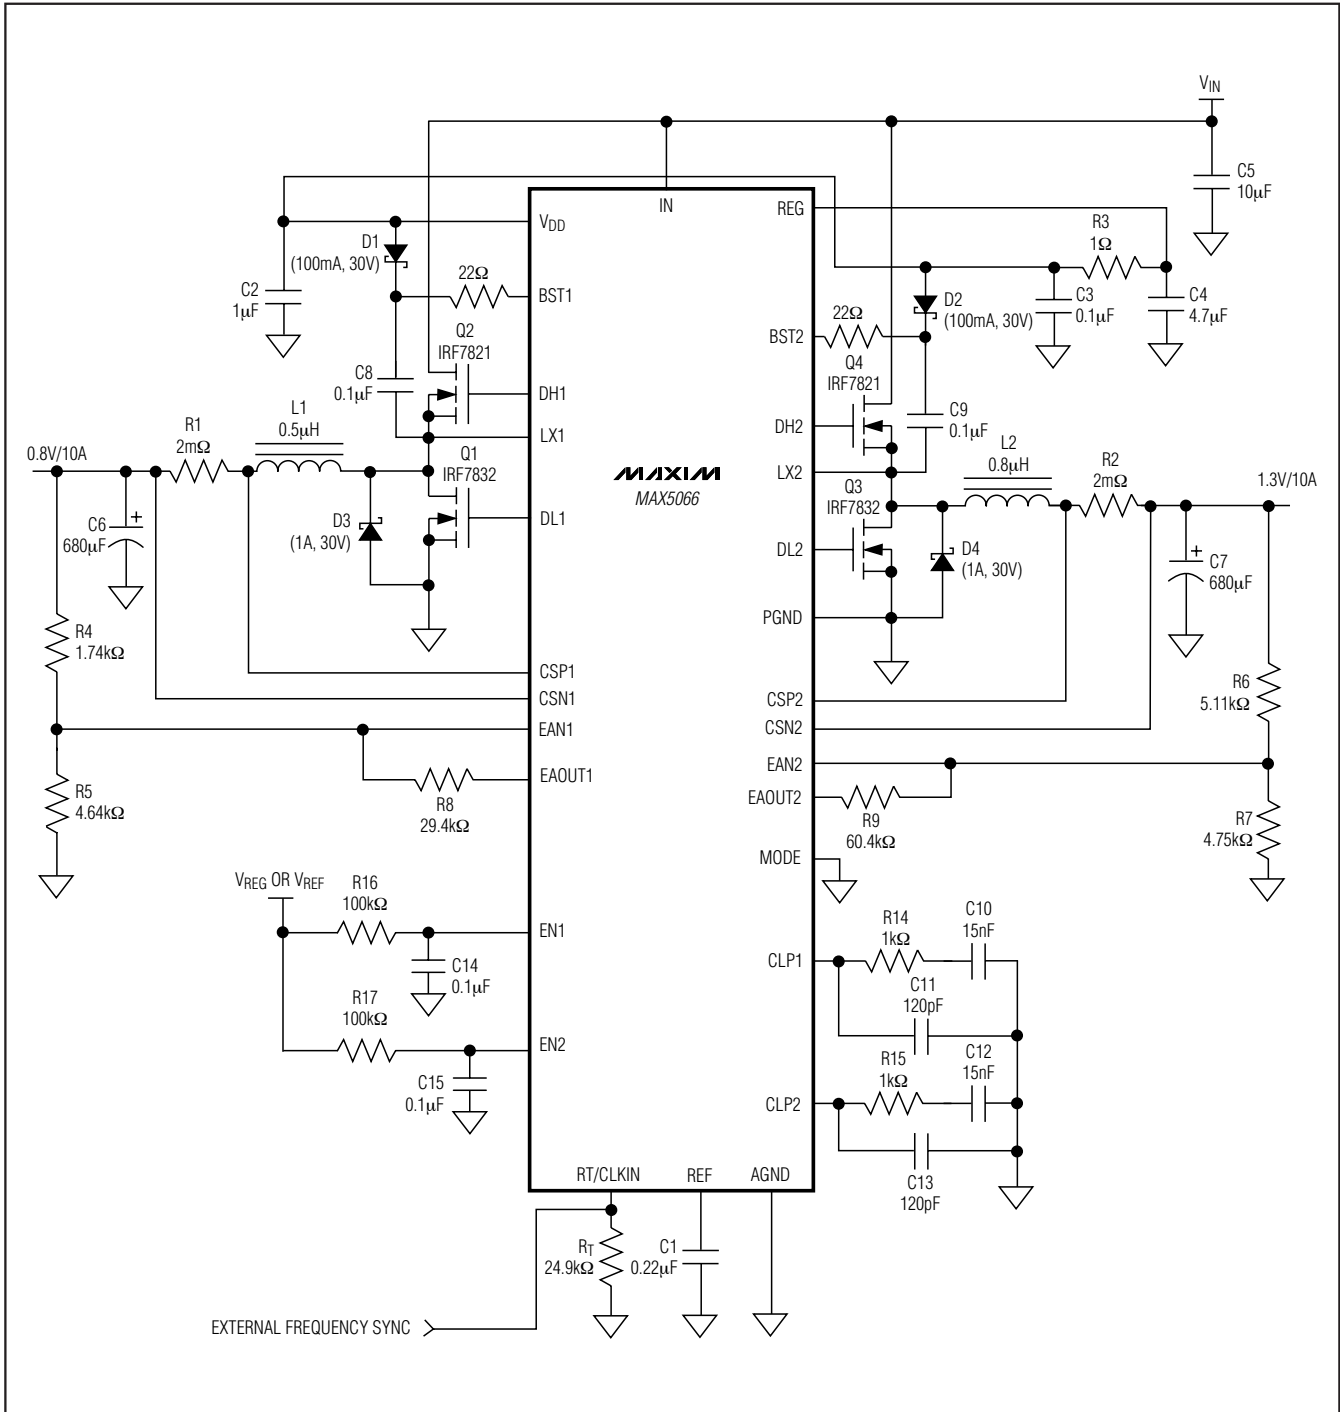

Figure 6. Dual-Output Buck Regulator
where IIN is the quiescent supply current into IN (4mA, typ), QGQ1, QGQ2, QGQ3, QGQ4 are the total gate charges of MOSFETs Q1 through Q4 at VGS = 5V (see Figure 6), and fSW is the switching frequency of each individual phase.
diodes D1 and D2 (see Figure 6). Connect a 0.1μF ceramic capacitor between BST\_ and LX\_.
Minimize the trace inductance from BST\_ and VDD to rectifier diodes, D1 and D2, and from BST\_ and LX\_ to the boost capacitors, C8 and C9 (see Figure 6). This is accomplished by using short, wide trace lengths.
The compensation network at the current-error amplifiers (CLP1 and CLP2) provides an inherent soft-start of the output voltage. It includes (R14 and C10) in parallel with C11 at CLP1 and (R15 and C12) in parallel with C13 at CLP2 (see Figure 6). The voltage at the current-error amplifier output limits the maximum current available to charge the output capacitors. The capacitor at CLP\_ in conjunction with the finite output-drive current of the current-error amplifier yields a finite rise time for the output current and thus the output voltage.
An internal oscillator generates the 180° out-of-phase clock signals required for both PWM modulators. The oscillator also generates the 2Vp-p voltage ramps necessary for the PWM comparators. The oscillator frequency can be set from 200kHz to 2MHz by an external resistor (RT) connected from RT/CLKIN to AGND (see Figure 6). The equation below shows the relationship between RT and the switching frequency:
output, voltage-regulating applications where the duty cycle is less than 50%, choose high-side MOSFETs (Q2 and Q4, Figure 6) with a moderate  $R_{DS(ON)}$  and a very low gate charge. Choose low-side MOSFETs (Q1 and Q3, Figure 6) with very low  $R_{DS(ON)}$  and moderate gate charge. The driver block also includes a logic circuit that provides an adaptive nonoverlap time (30ns typical) to
where  $I_{MAX}$  is the full load current of the regulator.  $V_{OUT}$  is the output voltage of the same regulator and  $C_{IN}$  is C5 in Figure 6. The ESR of the input capacitors wastes power from the input and heats up the capacitor. Reducing the ESR is important to maintain a high overall efficiency and in reducing the heating of the capacitors.
where  $I_{LOAD\_STEP}$  is the step in load current and  $t_{RESPONSE}$  is the response time of the controller. Controller response time depends on the control-loop bandwidth.  $C_{OUT}$  is C6 and C7 in Figure 6.
where ΔVOUT is the allowable drop in voltage from no load to full load. RF is R8 and R9, R1 is R4 and R6, R2 is R5 and R7 in Figure 6.
For stability of the current loop, the amplified inductor-current downslope at the negative input of the PWM comparator (CPWM1 and CPWM2) must not exceed the ramp slope at the comparator's positive input. This puts an upper limit on the current-error amplifier gain at the switching frequency. The inductor current downslope is given by VOUT/L where L is the value of the inductor (L1 and L2 in Figure 6) and VOUT is the output voltage. The amplified inductor current downslope at the negative input of the PWM comparator is given by:
where RSENSE is the current-sense resistor (R1 and R2 in Figure 6) and gM × RCF is the gain of the current-error amplifier (CEA1) at the switching frequency. The slope of the ramp at the positive input of the PWM comparator is 2V × fSW. Use the following equation to calculate the maximum value of RCF (R14 or R15 in Figure 6).
where CCF is C10 and C12 in Figure 6.
where  $C_{CFF}$  is C11 and C13 in Figure 6.